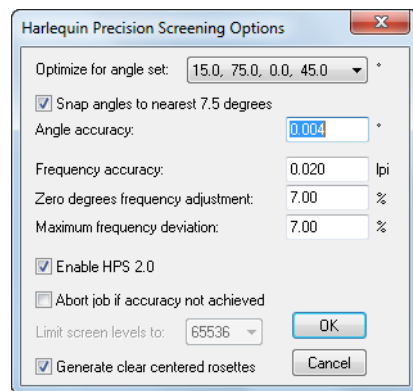

Figure 6.6 Harlequin Precision Screening Options dialog box
- When using HPS, the RIP produces the number of gray levels required to attain the specified accuracy of screening, as set in the HPS Options dialog box, shown in Figure 6.6, page 172.